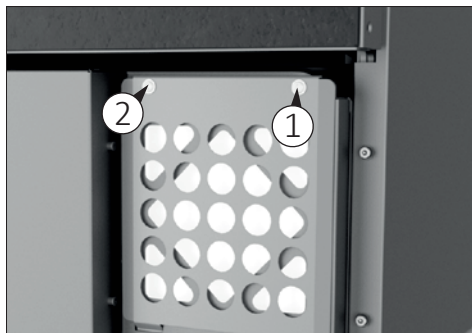

Fig. 26
- 2) Unscrew the screws (1 and 2 Fig. 26) using a Torx screwdriver T20.